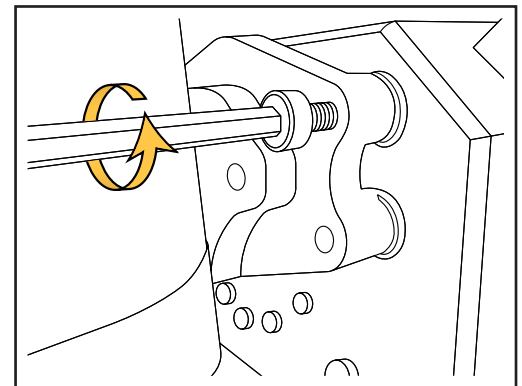

Fig. 64 - Remove allen screws
1. Remove four 2.5mm coil retaining allen screws (see Fig. 64).